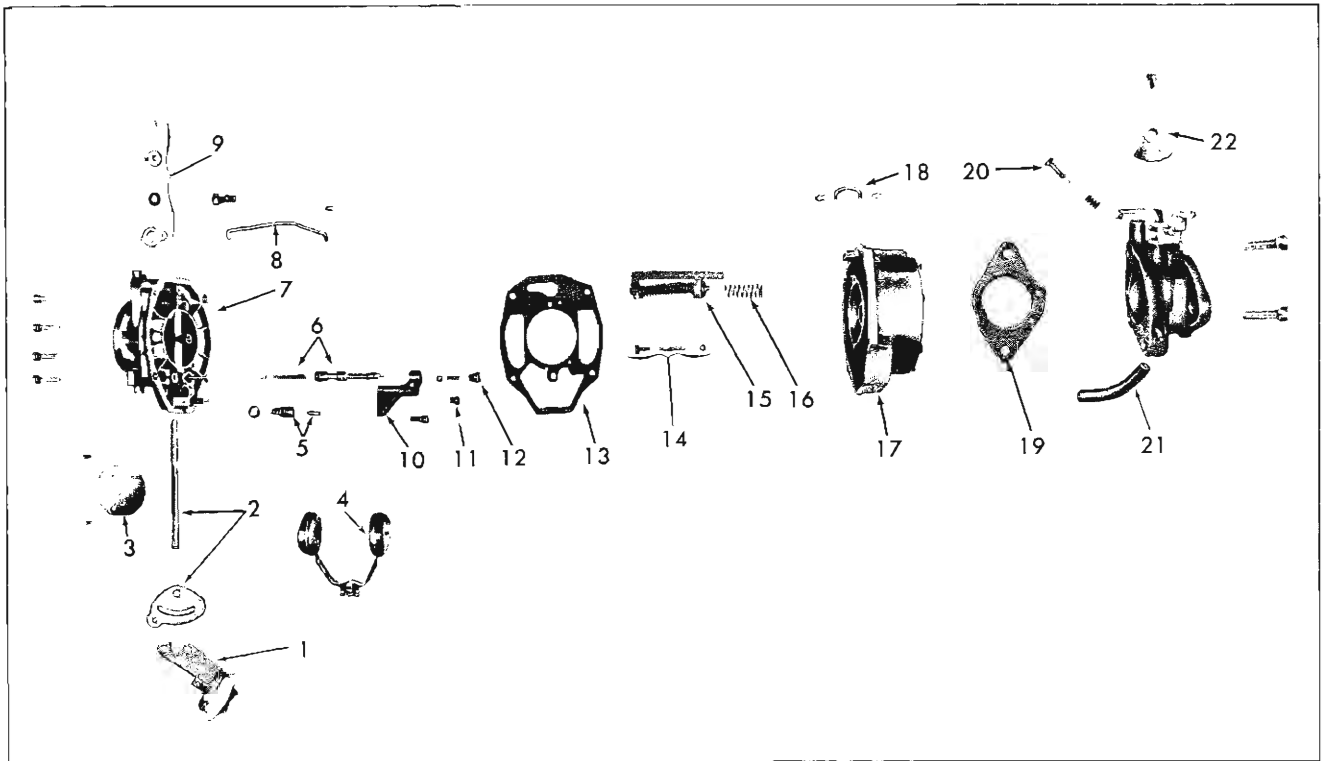

Fig. 13—Carburetor Disassembled
18. Figure 13 illustrates carburetor completely disassembled.